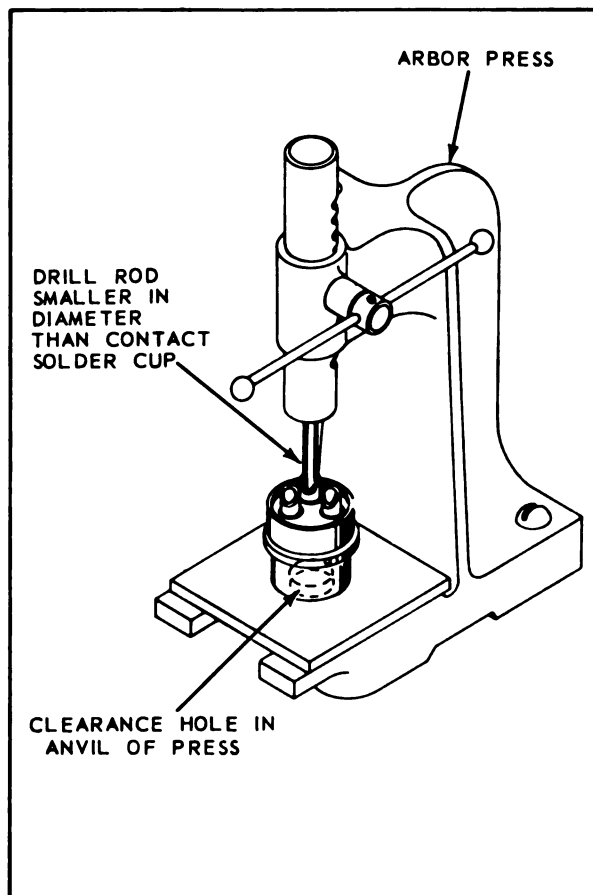

Figure 3-22. Removal of Solder Contacts from Resilient Insert
- Some Bendix and Cannon connectors have resilient inserts. Contacts are removed from these resilient inserts by pushing against the solder cup end with a round phenolic rod a little smaller in diameter than the solder cup. An arbor press, as shown in figure 3-22 is helpful in removing large size contacts.